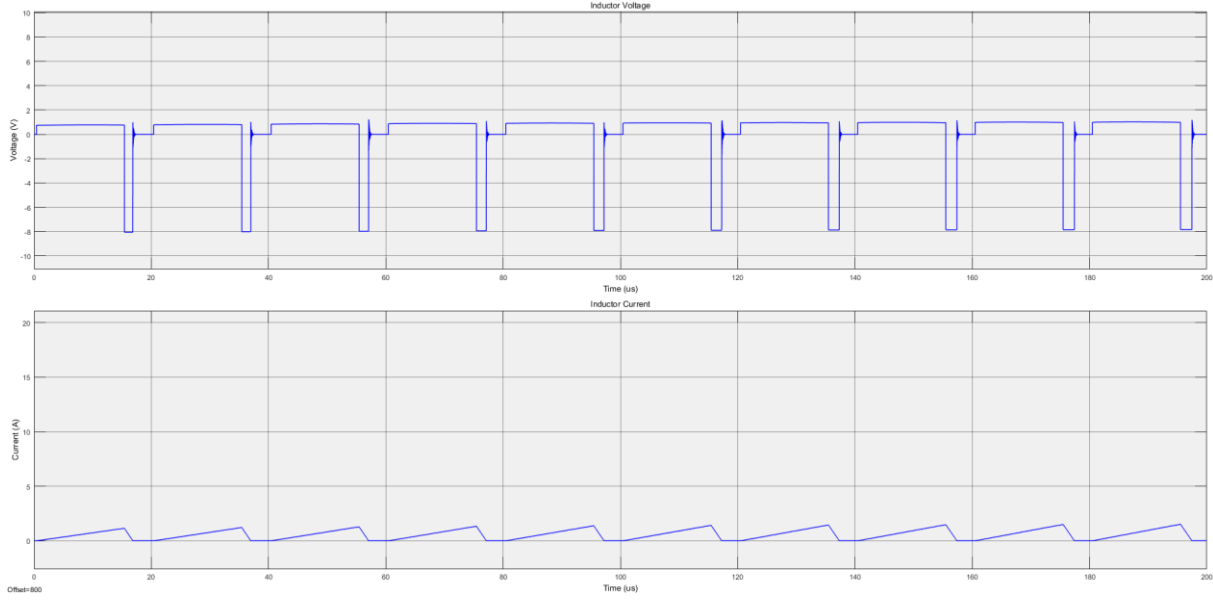

Figure 5: Discontinuous Mode Inductor Voltage and Current
**Q3)** Discontinuous mode inductor voltage and current waveforms and output voltage waveform are given in Figure 5 and 6, respectively.